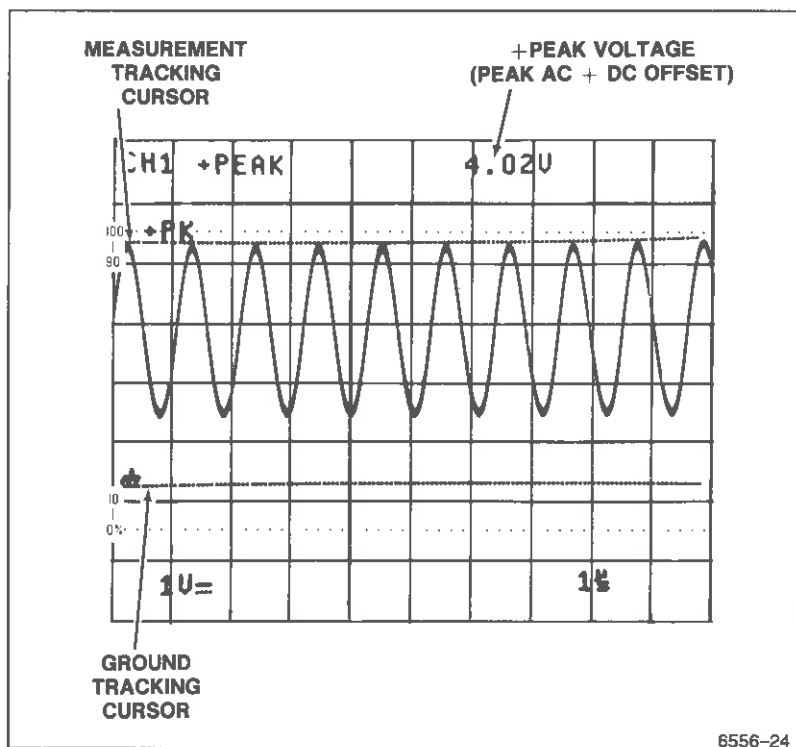

Figure 5-1. +PEAK voltage measurement and tracking cursors.
7. See Figure 5-1. The test signal used for the example has a dc offset (as shown by the position of the TRACK \overline{m} cursor) and +PEAK value (peak ac + dc) as indicated by the voltage readout.